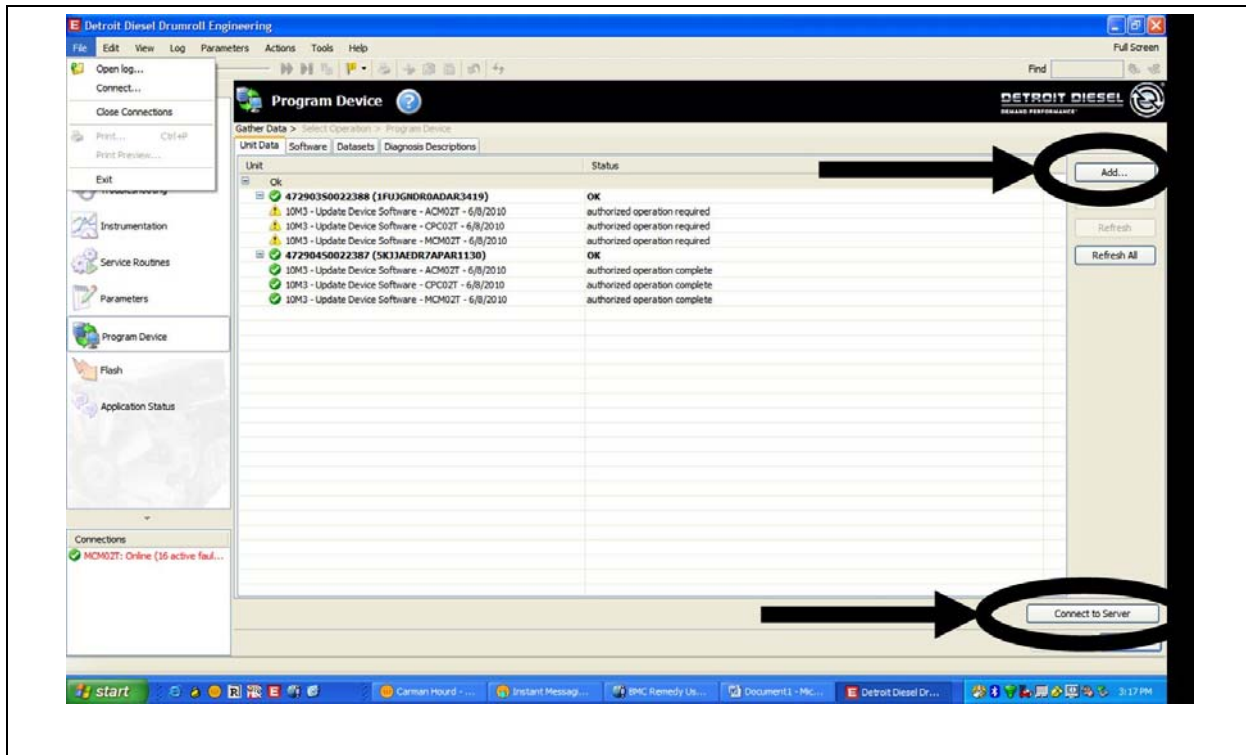

Fig. 3, Adding Engine Serial Number and Connecting to Server
7. Select the “Add” button in the upper right corner of the DiagnosticLink® screen and enter the engine serial number. Then click the “Connect to Server” button in the bottom right corner of the DiagnosticLink® screen. See Figure 3.